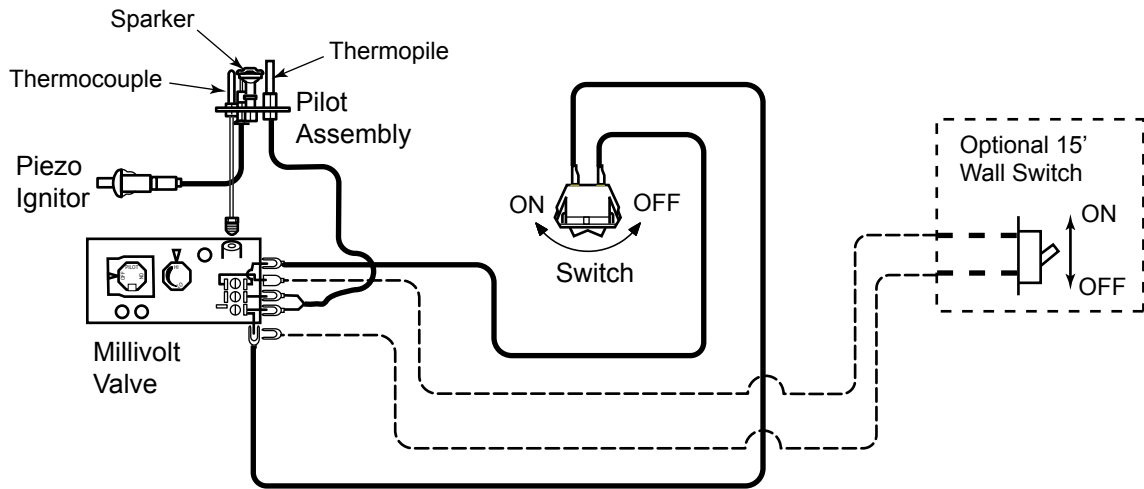

Figure 32 -
A remote wall switch and up to fifteen (15) feet of 18 Ga. wire may be used with this appliance. Attach the wall switch in a junction box at the desired location on the wall. *Figure 32.* Do not extend beyond the wall switch wire length provided.